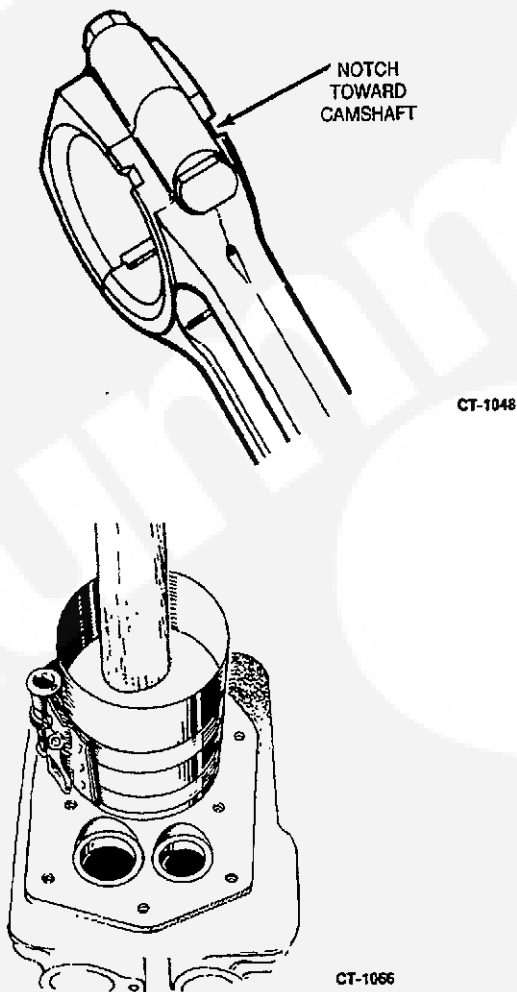

FIGURE 9-26. INSTALLING PISTON AND CONNECTING ROD
2. Lubricate the #1 piston assembly and the inside of the cylinder. Compress the rings with a ring compressor as shown in Figure 9-26. Install the bearing insert in rod.